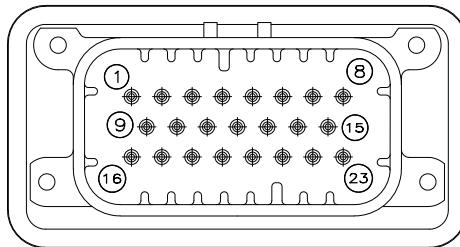
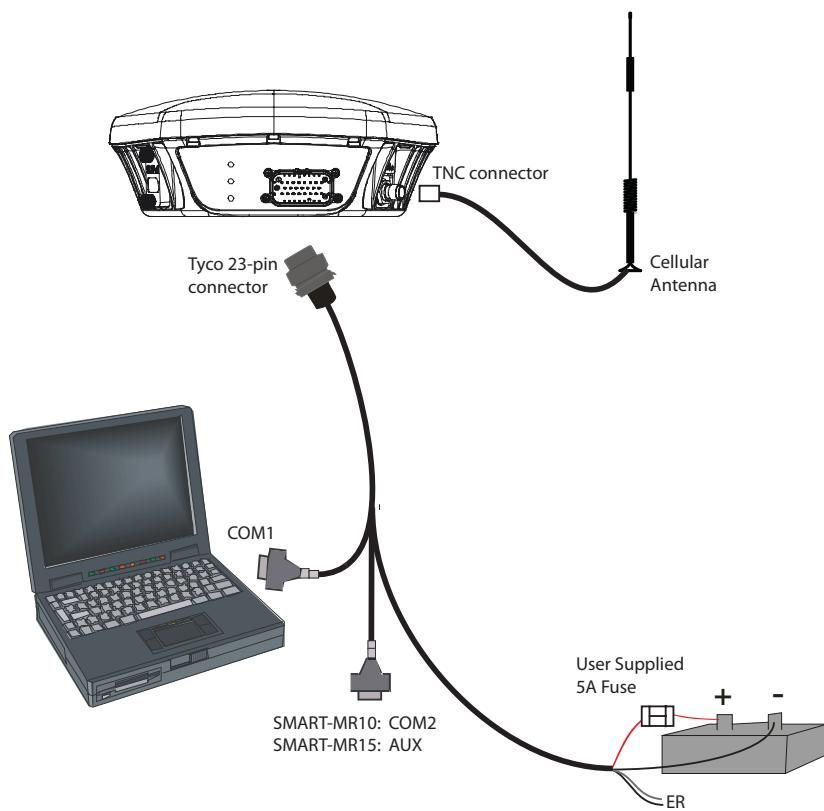

Figure 7: SMART-MR10/15 Connector
Figure 8: SMART-MR10/15 Cabling
- SMART-MR10/15 cable (see *Appendix D Replacement Parts* starting on *page 132* for part numbers). Refer to *Figure 8, SMART-MR10/15 Cabling* on *page 33* for COM and power connections.
1. Connect the cable to the SMART-MR10 or SMART-MR15 connector, shown in *Figure 7 below*. Route the cable to the other system components and secure it. If you are using the NovAtel streamlined cable, the system is as illustrated in *Figure 8 on page 33*. The pinouts for the SMART-MR10/15 connector are described in *Table 3 on page 34* and *Table 5 on page 35*.
WARNING!: If the MODE pin is tied high, it must be tied high through a fuse. In this case, MODE can be tied to the same fuse as the red power lead, as illustrated in *Figure 8, SMART-MR10/15 Cabling on page 33*. It is never acceptable to connect wiring directly to the positive side of the power source.